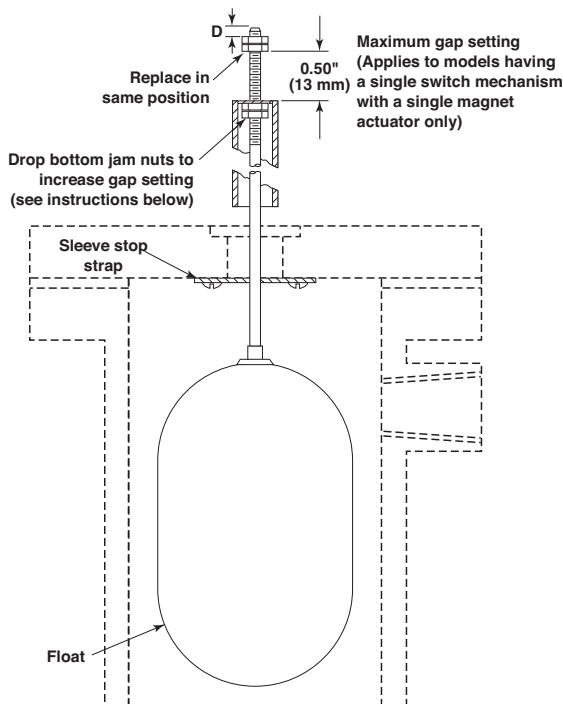

Figure 7
The differential on low level controls may be adjusted by repositioning the lower jam nuts on the float stem. The standard factory setting is for a minimum amount of play (gap) between the top jam nuts and the attraction sleeve. Refer to **Figure 7**.
8. Measure the distance “D” from the top edge of the upper jam nuts to the top of the float stem. Refer to **Figure 7**. Record this measurement.
10. Loosen and adjust lower jam nuts to the desired position. Tighten lower jam nuts securely. Refer to **Figure 7**.
12. Replace upper jam nuts and guide washer on the stem in the position previously noted. Tighten upper jam nuts securely. Refer to **Figure 7**.